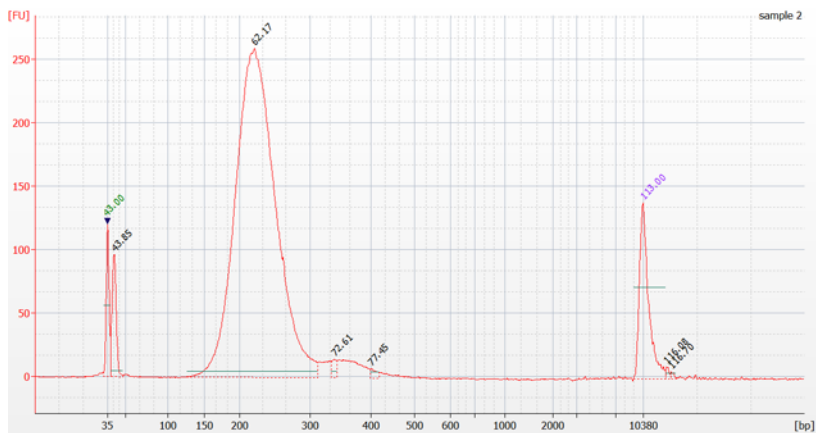

Figure 5 Post-capture analysis using the Bioanalyzer High Sensitivity DNA Assay.
- 5 Verify that the electropherogram shows a peak of DNA fragment size at approximately 220 bp. A sample electropherogram is shown in Figure 5. Primer-dimer peaks can be expected around 40 bp and are removed during the size-selection step (page 51).